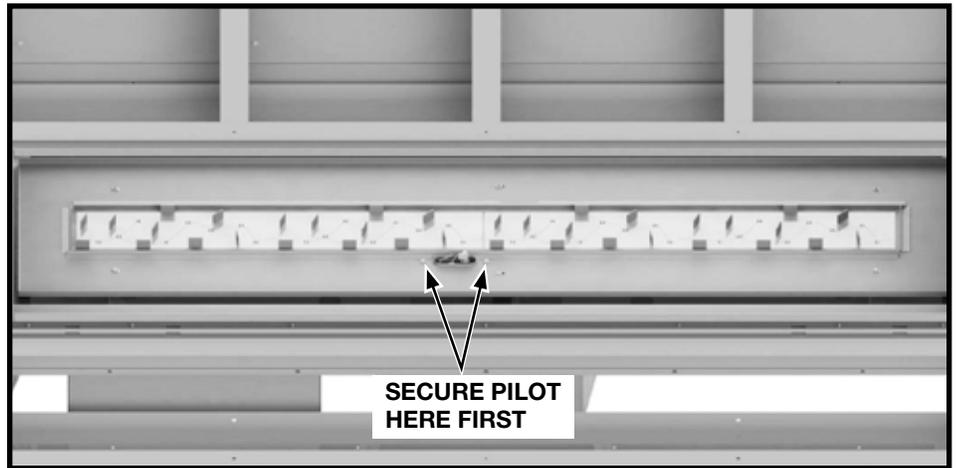

Figure 48: ng04 Securing pilot.
6. Install burner tray as shown in Figure 48 using 8 screws. Secure tray around pilot first then the other 6 screws.